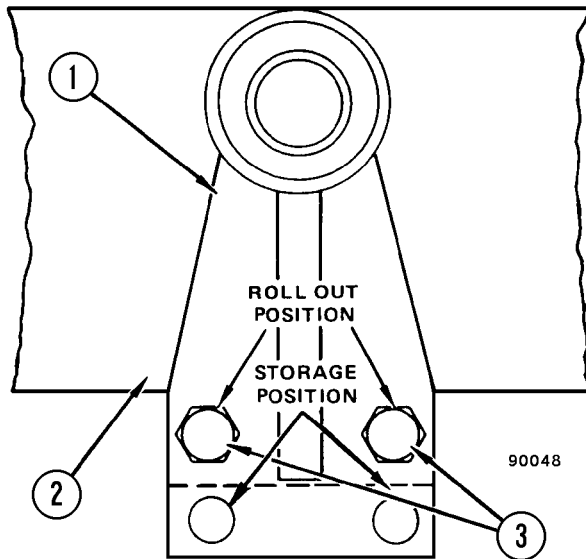

FIGURE 2-9. SUBFRAME ROLLERS
3. Remove the capscrews and engine mounting caps that secure subframe mounting bushings (2) at the rear of the subframe.
5. Place a jack under the rear of the power module. Raise the rear portion of engine subframe and install the subframe rollers (see Figure 2-9). Lower the rear portion of the subframe carefully until the rollers rest on the main frame guide rail.
NOTE: Subframe rollers are supplied in the truck tool group and can be installed in the storage position after use as shown in Figure 2-9.
3. Check the subframe rollers to ensure that they roll freely and are in the "roll out" position (see Figure 2-9).